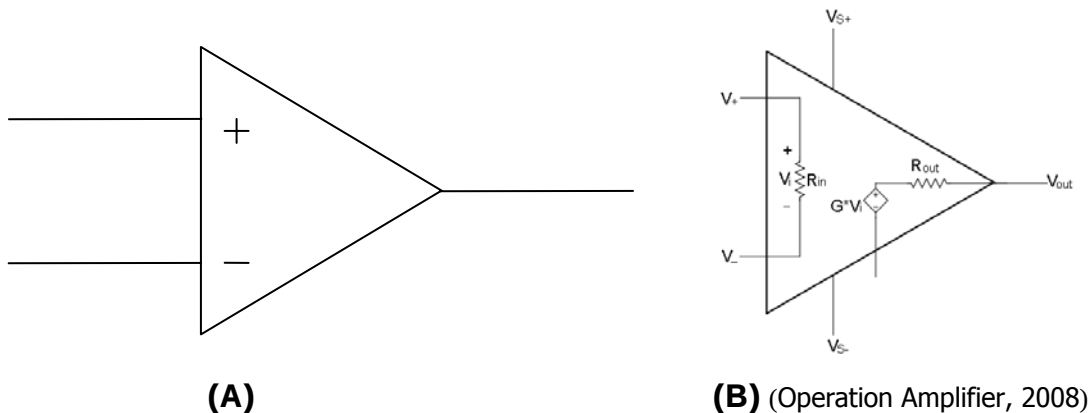

Figure 1.1 – Symbolic form of the operational amplifier
Circuit design begins on a computer or paper. Op amps are typically represented by a triangle with a plus and minus mark. These two marks represent the non-inverting and inverting inputs. Figure 1.1(A) demonstrates the symbolic form of an op amp, where the two inputs are on the left and the output is on the right.
The input to output relationship from Equation 1.1 can be applied to Figure 1.1(A). The result is Figure 1.1(B), where a voltage source dependant upon the inputs is supplying the output. R_{in} has a high resistance, producing no current and R_{out} has low resistance, resulting in no losses from the op amp. In this figure, V_s represents the positive and negative power supply.